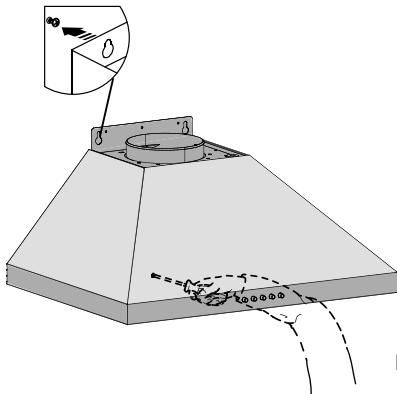

Fig.8
- Hang the body hood on the mounting screws then secure at the anti-tilt locations(2 places) as indicated in Fig 8.